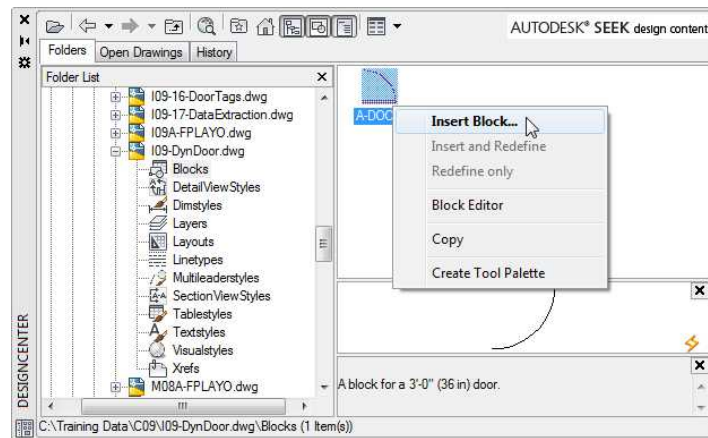

FIGURE 9.53: Using DesignCenter to insert the dynamic A-DOOR block
11. Right-click the A-DOOR block and select Insert Block (see Figure 9.53).